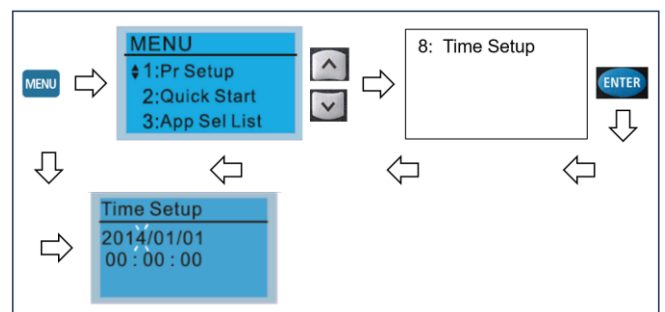

Figure 12-6. Accessing Real-Time Clock Set-Up.
2. Press the **MENU** key to access the VFD Menu (see Figure 12-6).
3. Use the **↑** and **↓** keys to scroll to 8: Time Setup. Press the **ENTER** key to select (see Figure 12-6).